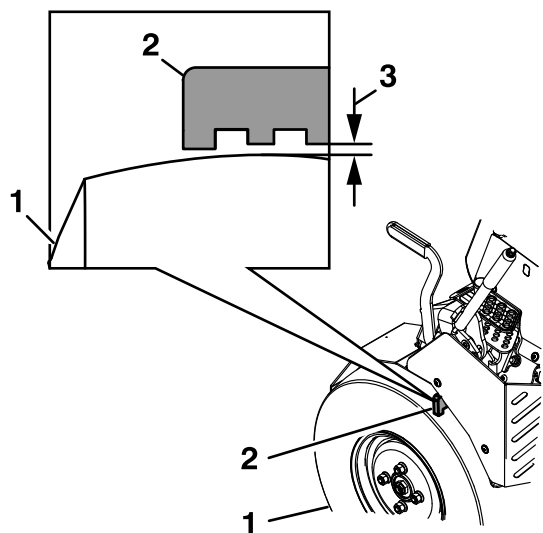

Figure 21
3. When the park brake is released, the brake bars should lift off the tires and the hand lever should travel forward. When the brake is disengaged, the gap between the brake snubber teeth and drive tire should measure 16 to 19 mm (5/8 to 3/4 inch) (Figure 21).